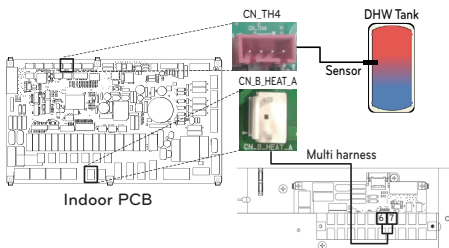

Fig. 1
Step 2. Connect Harness(Violet) of Main PCB assembly(TB1(6/7)) to 'CN_B_Heat_A' of the Main PCB like following fig. 1.
Step 4. Connect power supply to the DHW tank kit as shown fig. 1.